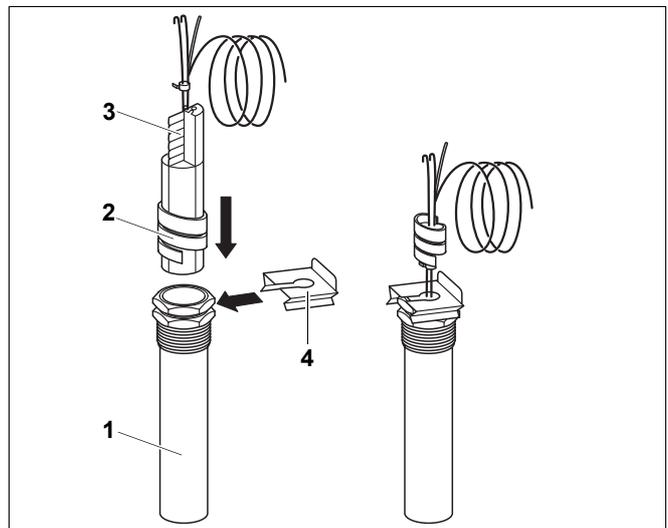

Fig. 18 Sensor well and temperature sensor
- Insert the temperature sensor until it bottoms out inside the sensor well (Fig. 18, **item 1**). The plastic coil (Fig. 18, **item 2**) then automatically pushes back. At the same time insert the compensating spring (Fig. 18, **item 3**) into the sensor well (Fig. 18, **item 1**).
- Press the sensor holder (Fig. 18, **item 4**) (standard delivery – control unit) laterally or from above, onto the sensor well head (see arrows).